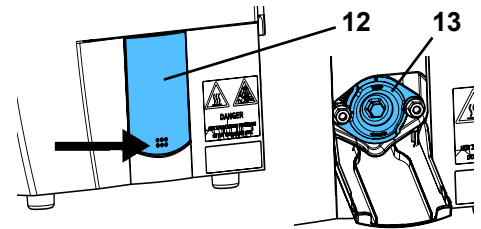

Fig. 1
Plaster models or investment models can be left to dry on the model tray (2, Fig. 1).
⇒ Screw in the tank cap (1, Fig. 1).
**Place the unit so that there is no risk if steam is discharged from the outlet opening of the overpressure valve (14, Fig. 1). For example, do not place the unit in front of an electrical socket.**
**The outlet opening of the overpressure valve (14, Fig. 1) must not be closed or blocked in any way.**
**Danger due to pressurized steam!** Before opening the revision cap, ensure that the pressure tank is no longer pressurized. To do so, open the tank cap (1, Fig. 1) and remove it.
⇒ Place the unit so that water can flow from the service opening (12/13, Fig. 1) into a sink.